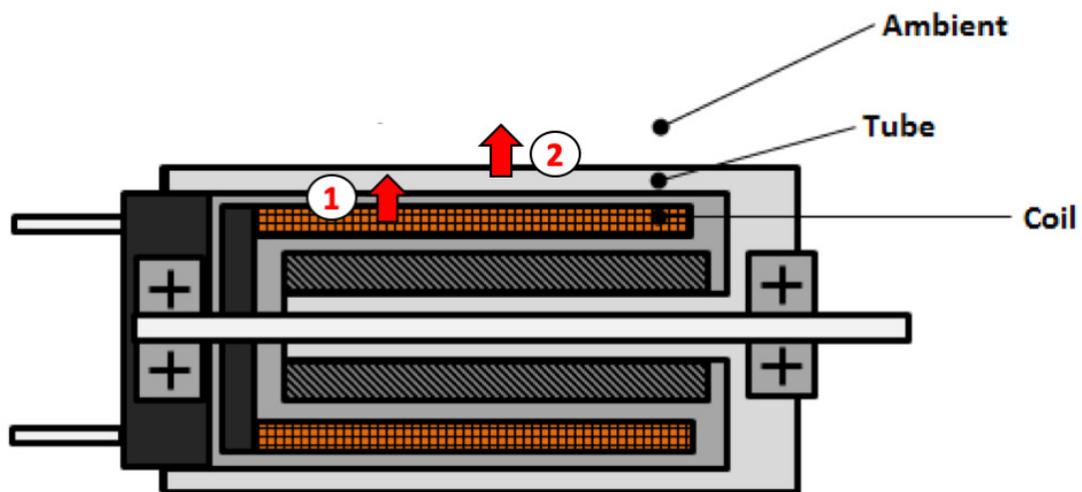

Figure 2: Heat Dissipation in a Coreless Brush DC Motor
As the coil temperature rises, the heat will transfer from the coil to the tube (1), and then from the tube to the ambient environment (2), as shown on figure 2. These two successive steps have different thermal resistances (R_{th1} and R_{th2} , respectively), since individual materials have disparate thermal conductivities, and the shape, mass and surface area of each part also has an influence on how heat will be transferred.